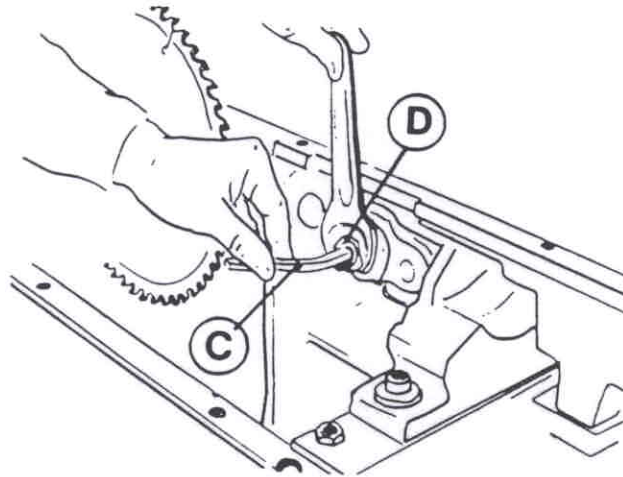

Fig.22
- Lock spindle by means of 8 mm Allen wrench (C fig.22)
- Loosen nut (D): right-hand thread